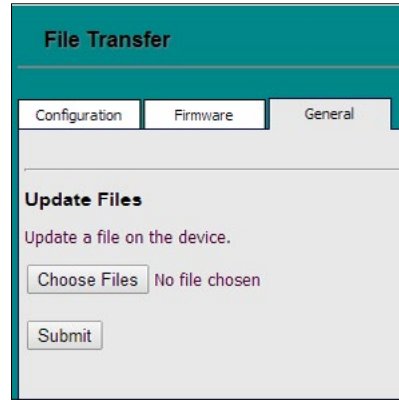

Figure 15: File Transfer - General Tab
5. Refer to the *File Transfer Window* below (**Figure 15**). In the *General Tab*, *click* **<Browse>** and locate the file you saved in Step 1. Then click on **<Submit>**. When the download is complete, *click* on the **<System Restart>** button.